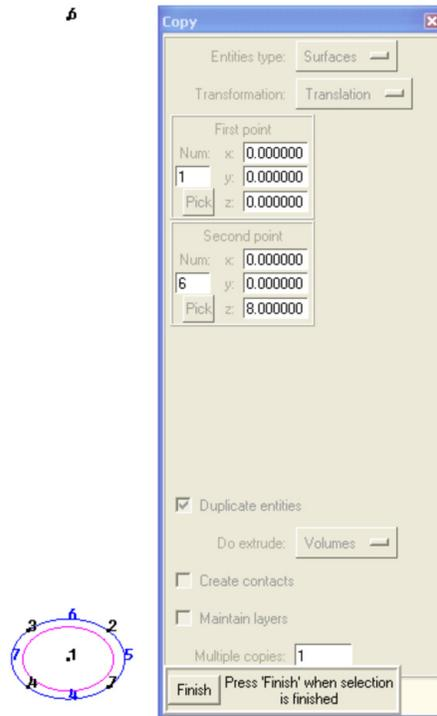

Figure 9: Copy dialog box showing the parameters used for base extrusion
9. Select **Volumes** for **Do extrude** and then click on **Select** (Figure 9).